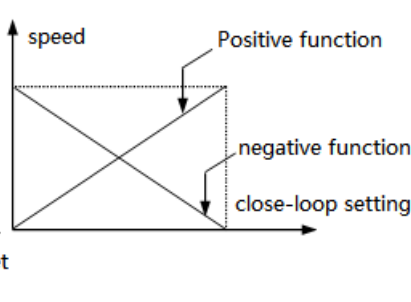

Fig.4-35 Close-loop adjustment feature diagram
The two close-loop features can be set via P7.14, as shown in Fig4-35.
- (1) Confirm the close-loop setting and feedback channel (P7.01, P7.02).
- (2) The relationship between close-loop setting and feedback value (P7.06~P7.09).
- (3) Confirm the close-loop adjustment features (P7.14=1 negative function; 0 is positive function), as shown in Fig4-35.
- (4) Set the close-loop preset frequency (P7.16~ P7.17).
- (5) Set close-loop filter time, sampling cycle, difference limit and gain coefficient (P7.03, P7.04, P7.12, P7.13).